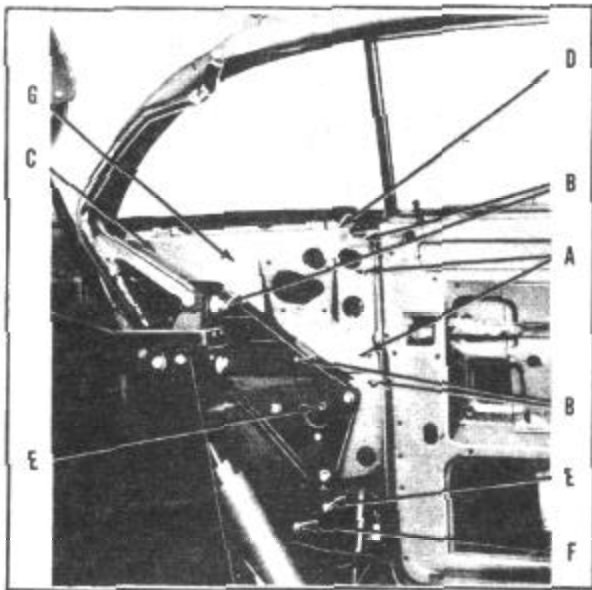

FIGURE 159
3. Remove the windlace and tacking strips as a unit. Tacking strip is retained by two clips (A), Figure 159.
4. Remove screws (B) and one Phillips head screw (C) and quarter inner panel (G).